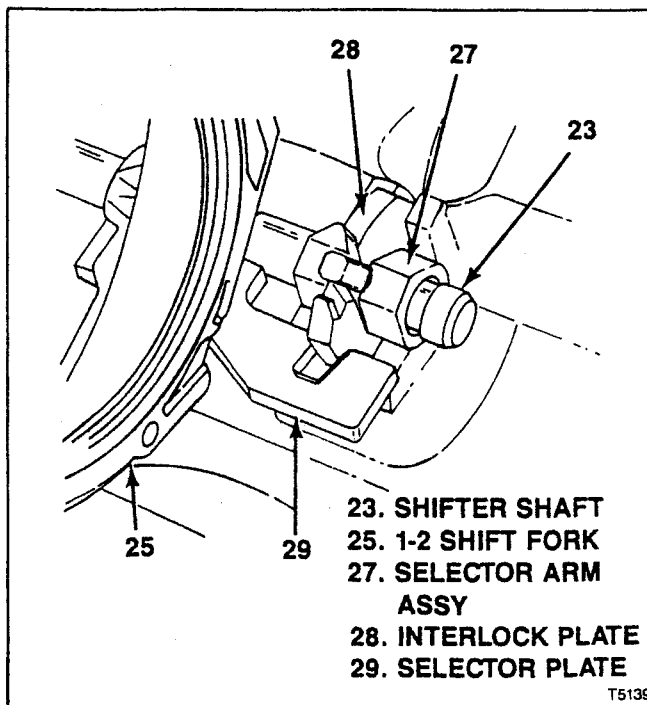

Figure 7-17. Installing T5 NWC Selector Arm and Interlock Plate
- f. Align gap in interlock plate (28) with projection on selector arm assembly (27) and install these parts in semi-circular groove in case cover (32). Continue to push in shifter shaft (23) until it is just through selector arm assembly (see figure 7-17).